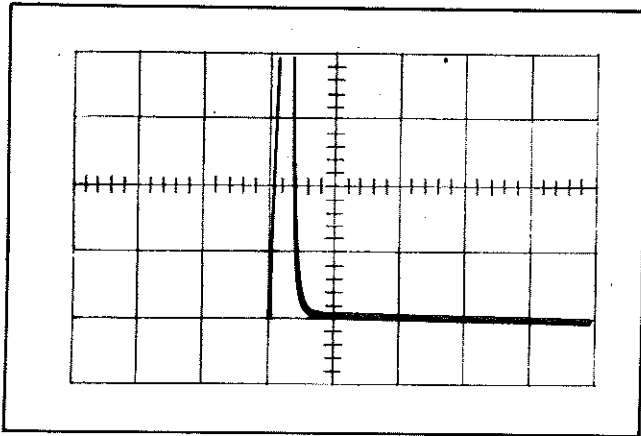

Figure 5-2
- b. Observe the UNIPOLAR OUTPUT on the scope and adjust the Pole/Zero control so that the tail of the Gaussian pulse returns to the baseline as fast as possible with NO under or overshoot, as in Figure 5-2.
- e. Monitor the UNIPOLAR OUTPUT on the scope and adjust the Pole/Zero control for no under or overshoots, see Figure 5.2. Adjust the Model 2012 FINE GAIN for an output pulse amplitude of +9.9 to +10.1 volts.